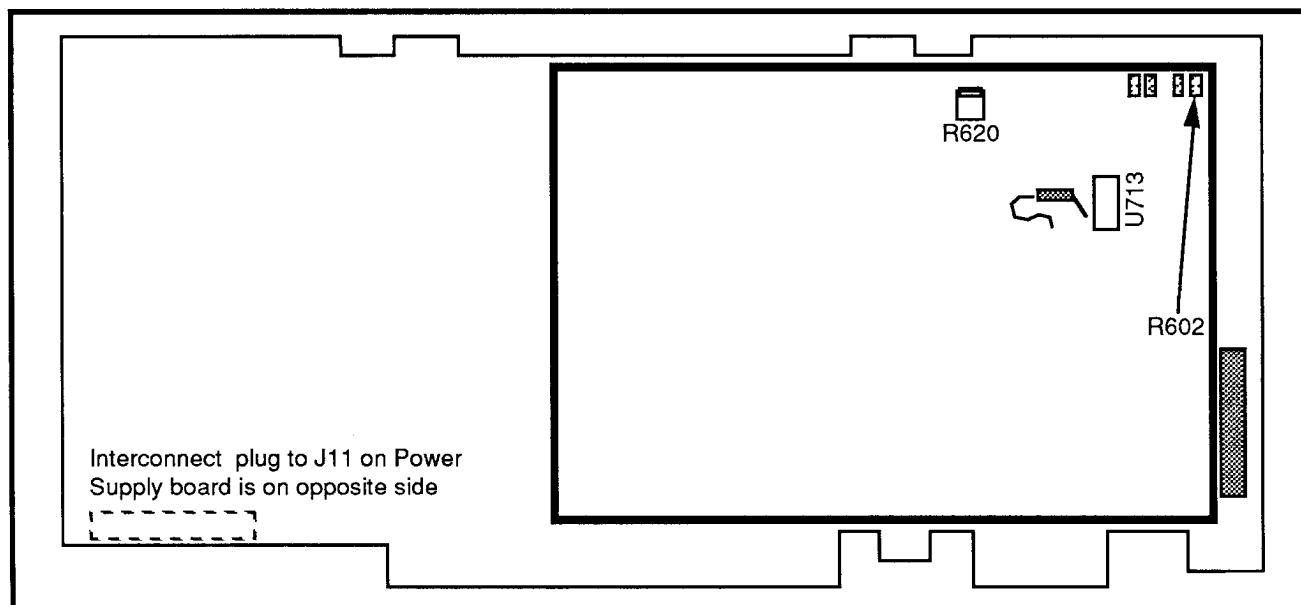

Figure 5-12. Location of R602 on the Phase Lock CFC board.
e. Measure the beat note amplitude at the bottom of R602 (figure 5-12) on the Phase Lock CFC board.
f. If the amplitude is greater than 60 mV, pick a lower value for R602. If the amplitude is lower than 40 mV, pick a higher value. See Figure 5-12 for the location of R602. The following formula helps in picking a resistor value: